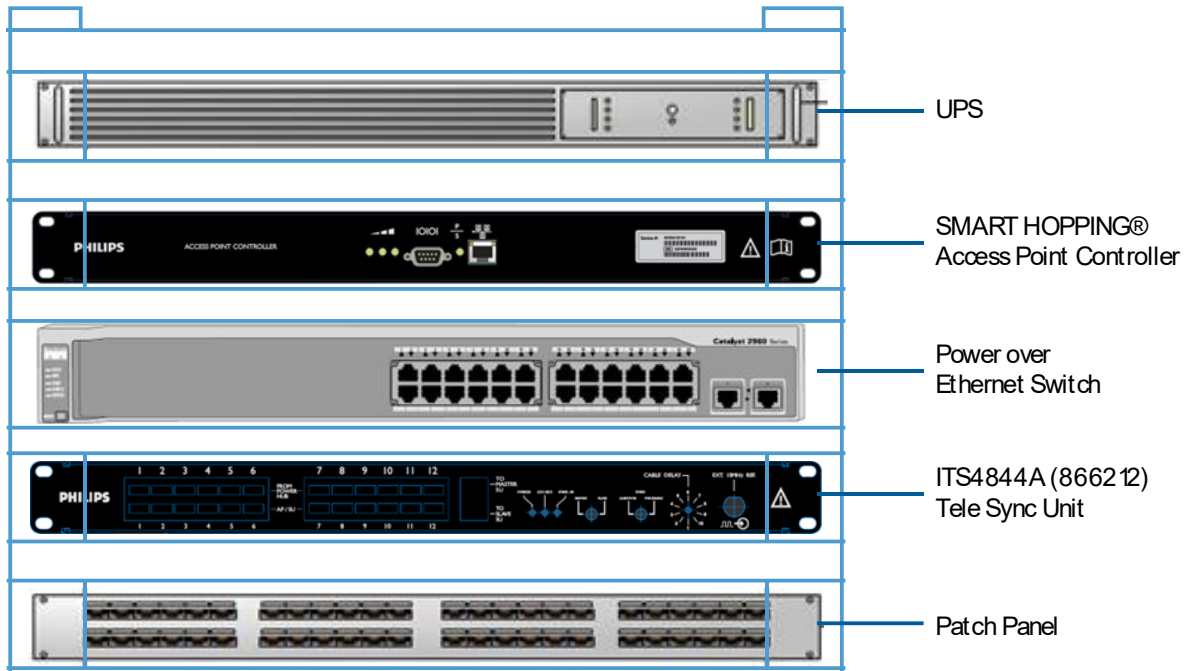

Figure 30: Rack-mounting the Smart-hopping infrastructure Components (PoE Switch)
Figure 30 shows the suggested order when rack-mounting Smart-hopping infrastructure components.
1. Referring to Figure 30, mount the Smart-hopping infrastructure components in a standard 19- inch equipment rack: